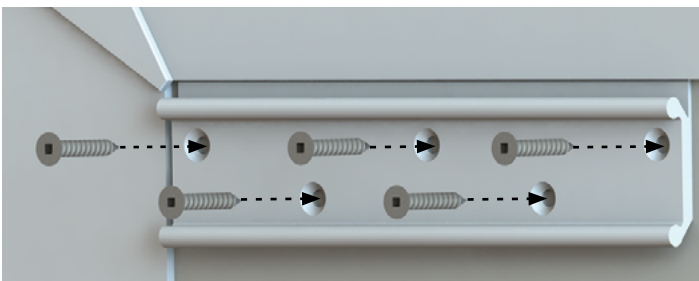

Fig.13
3. Fasten the mounting bracket to the slide-out exterior wall using the five provided #10 -13 x 1 ¼" recessed square head screws (Fig.13).